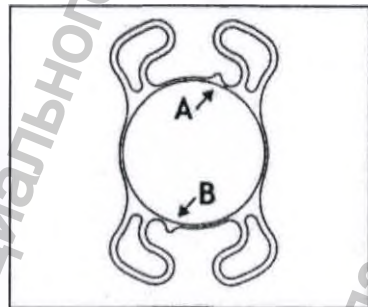

FIG. 5
illustrated in **FIG. 5**, when the haptic insertions are top right (A) and bottom left (B), you are looking at the anterior side of the lens.